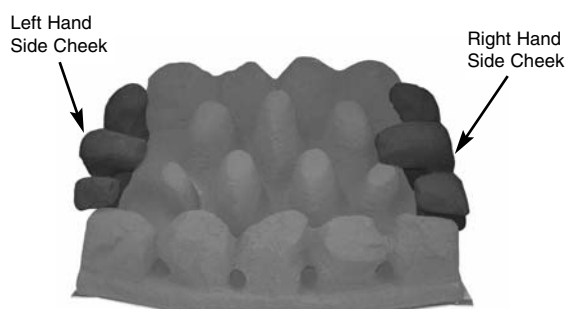

Fig. 14
4. Place the side cheeks into position, making sure they are positioned either side of the fuel bed and the overhang is at the front. The outside edge should be in contact with the radiant box ceramic liner. Ensure that the lower part of the side cheeks sit on the front coal and are in front of the rear coal (Fig. 14).